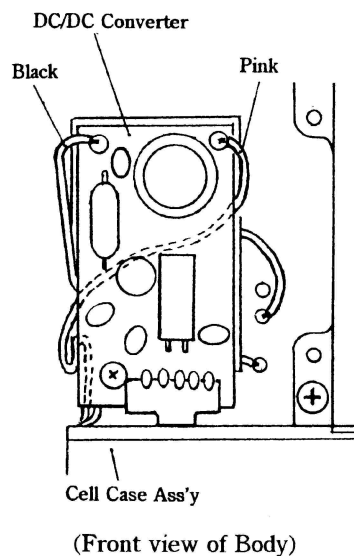

Fig. 16
- b) Lead the Pink lead wire of the Cell Case behind the DC/DC Converter and solder it to the DC/DC Converter. (See Fig. 16)